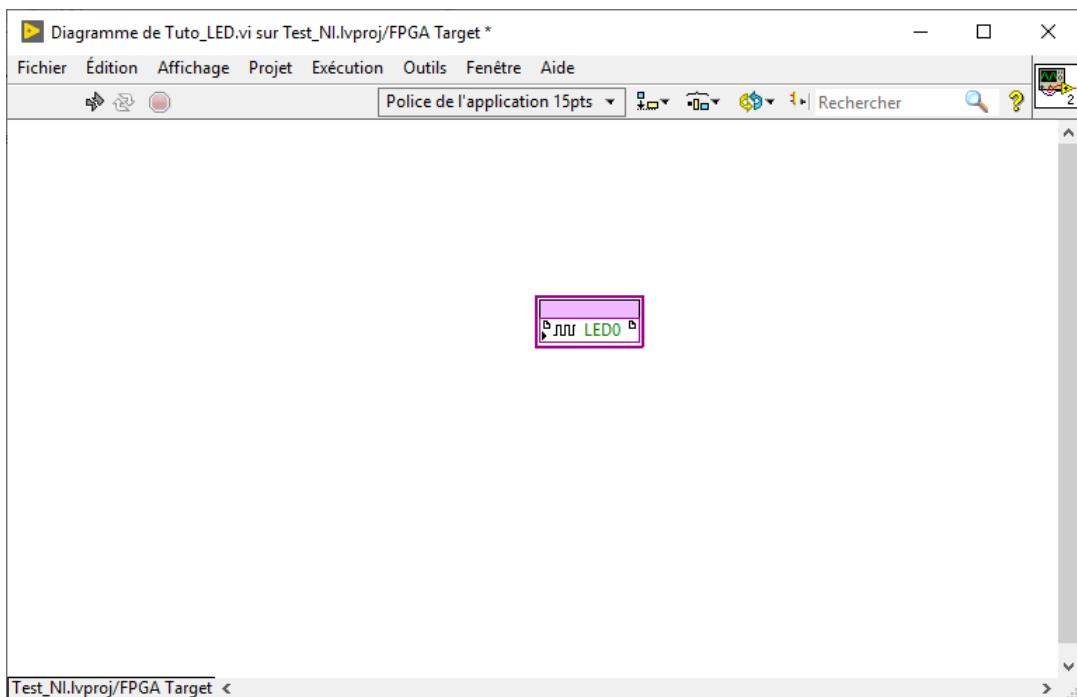

Figure 2.1: LED block in LABVIEW
2. drag and drop it in the diagram window (figure 2.1);